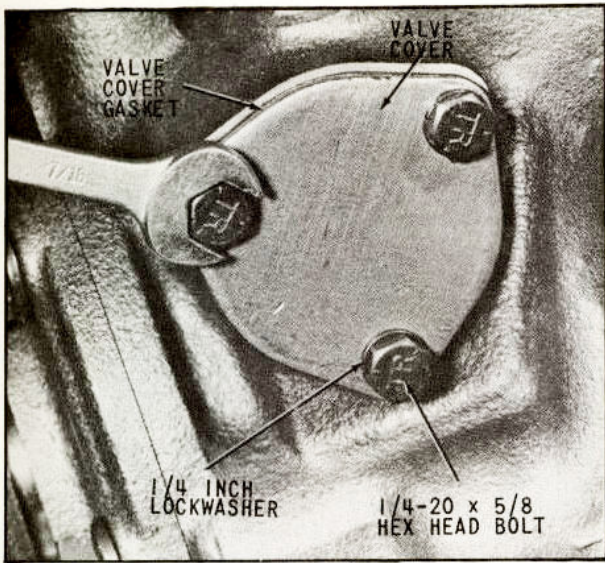

Fig. 71 Assembly of Valve Cover
78. Assemble the valve cover gasket, valve cover, lockwashers and hex head bolts as indicated in (Fig. 71). Torque hex head bolts to 8-11 pounds-feet.
1. Unscrew three (3) hex head bolts, remove valve cover and gasket, as shown in (Fig. 71). Discard valve cover, gasket, hex head bolts and lockwashers.